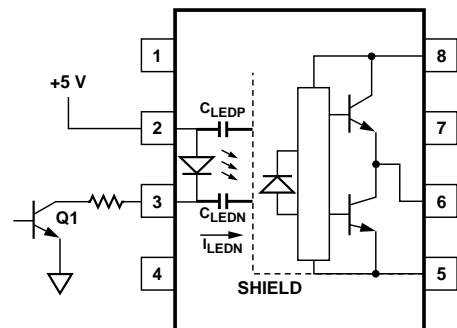

Figure 24. Not Recommended Open Collector Drive Circuit.
Step 1: Calculate R_g minimum from the I_{OL} peak specification. The IGBT and R_g in Figure 24 can be analyzed as a simple RC circuit with a voltage supplied by the HCPL-314J.
The open collector drive circuit, shown in Figure 24, can not keep the LED off during a +dV_{CM}/dt transient, since all the current flowing through C_{LEDN}